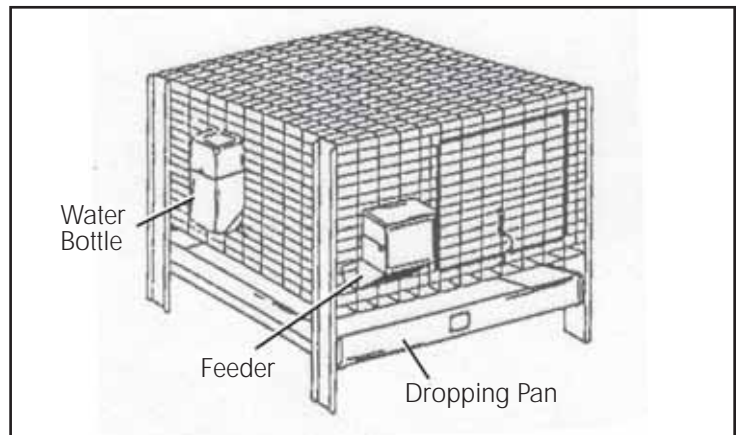

Figure 9
12. Install the feeder, water bottle, and dropping pan as shown in Figure 9.